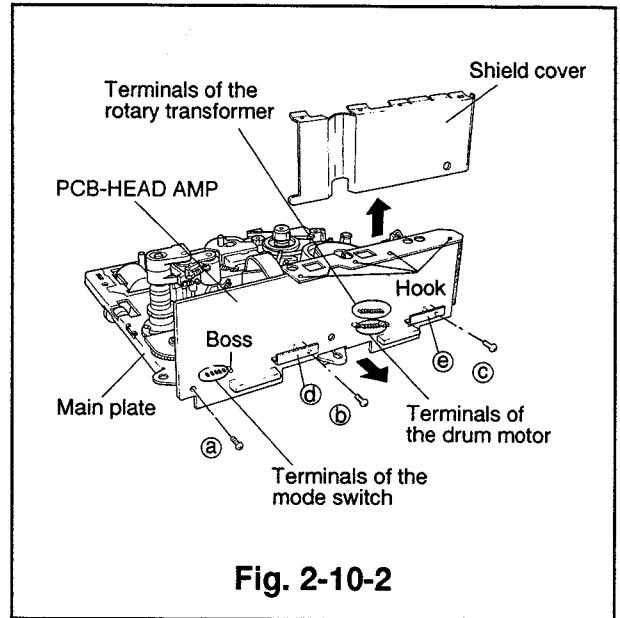

Fig. 2-10-2
- ① Remove the cassette housing. (Refer to Para. 2-1 for the removal method.)
- ② Unsolder the soldered pins on the terminal of the drum assembly and the terminal of the rotary transformer. (Refer to Fig. 2-10-2)
- ③ Solder the pins of the drum assembly and the rotary transformer. (Refer to Fig. 2-10-2.)
- ④ Install the cassette housing. (Refer to Para. 2-1 for the installation method.)